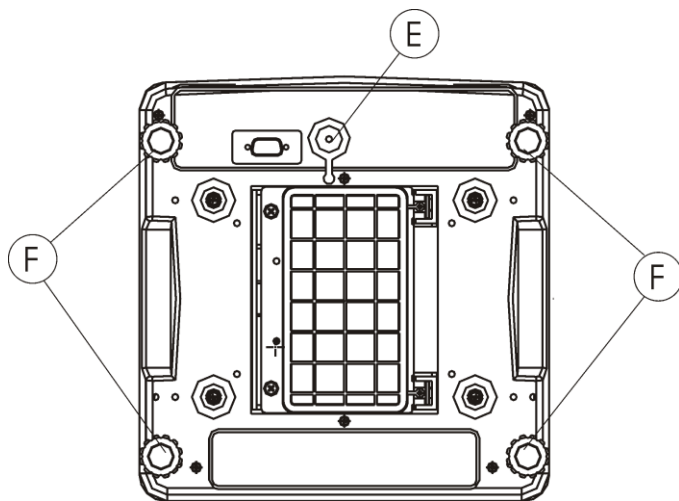

FIG 2
8. Always apply the rubber cap (**FIG 2 E**) when not in charging.
- c. After battery is fully recharged, remove adaptor from scale. Apply the rubber cap (**FIG 2 E**) to seal the DC input jack of scale.
In order to obtain an accurate weighing result, the scale must be placed on a strong and level surface. If required, adjust the adjustable feet (**FIG 2 F**) underneath scale to obtain a level position. Refer to the bubble indicator for leveling condition.